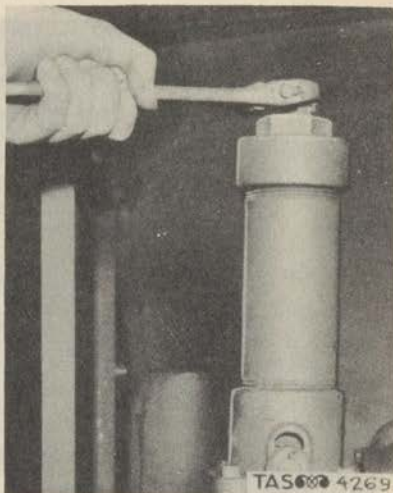

Figure 270. Loosening Adjusting Nut.
(2) Loosen the adjusting nut. (Fig. 270)